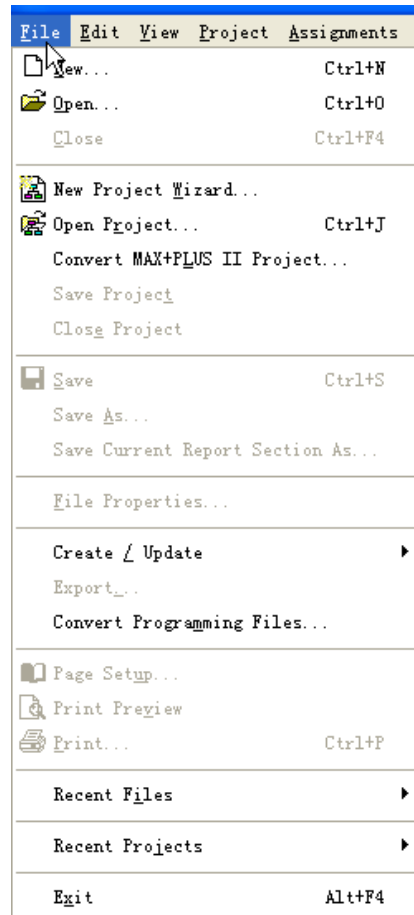

Figure 3. File menu
- Select **File > New Project Wizard** to reach the window in Figure 3